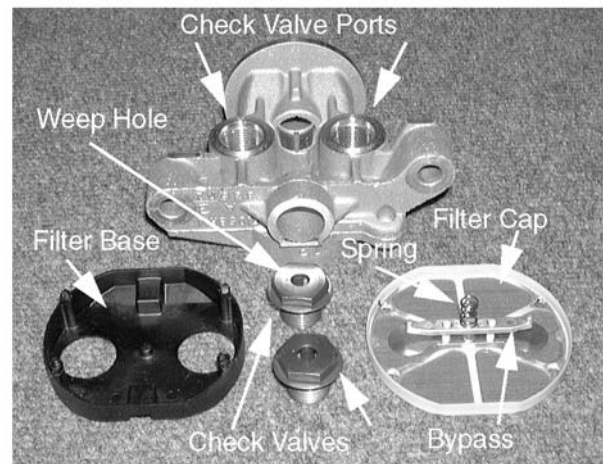

Figure 6-67.
32. Remove both of the check valves and make certain they are free. See Figure 6-67.